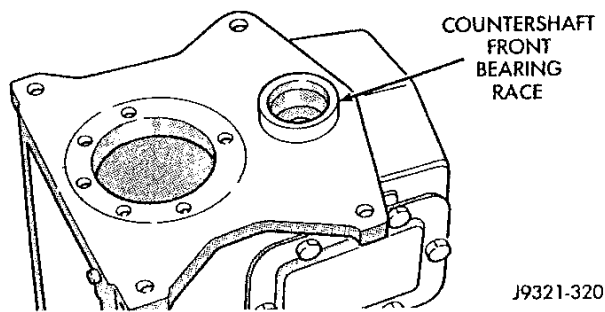

Fig. 58 Countershaft Front Bearing Race Installation
(5) Install countershaft front bearing race in case and on bearing (Fig. 58).